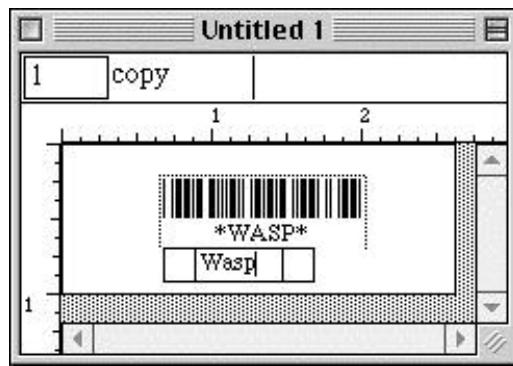

Figure 2-9 Bar Code with Human Readable Text Displayed Below
- When you select another object or tool, the bar code object edit areas disappear, and the bar code object appears in its normal state. See Figure 2-9.